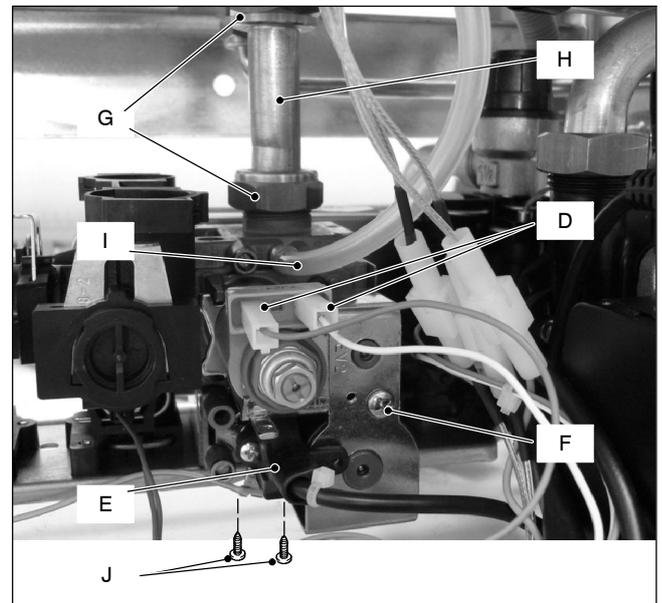

Fig. 5
- 2 Disconnect the connectors *D* (Fig. 5) from the modulating operator and measure the electrical resistance of the coil. Its electrical resistance value must be approx.  $80 \Omega^*$ .
- 2 Disconnect the electrical connector *E* (Fig. 5).
- 2 Disconnect the connector *E* (Fig. 5).
- 2 Disconnect the connectors *D* and *E* (Fig. 5).